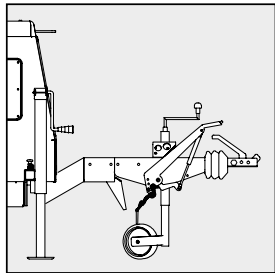

Fig. 1
- **Transportation kit**, the tower is ready for road transport. Including as standard: jockey wheel, straight drawbar with ball coupling and connections for signalling lights (brake lights, indicators), as well as position and handbrake reflectors. As optional we have swan neck and adjustable drawbars available, as well as the ring type hitches (See Fig. 1, 2 and 3).